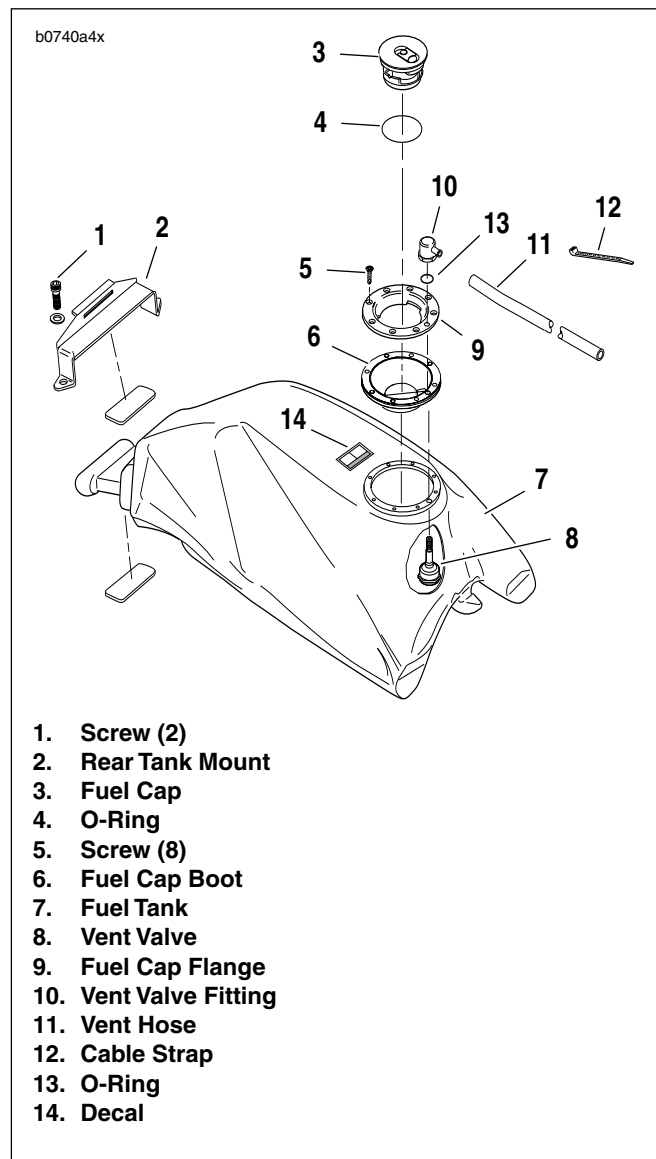
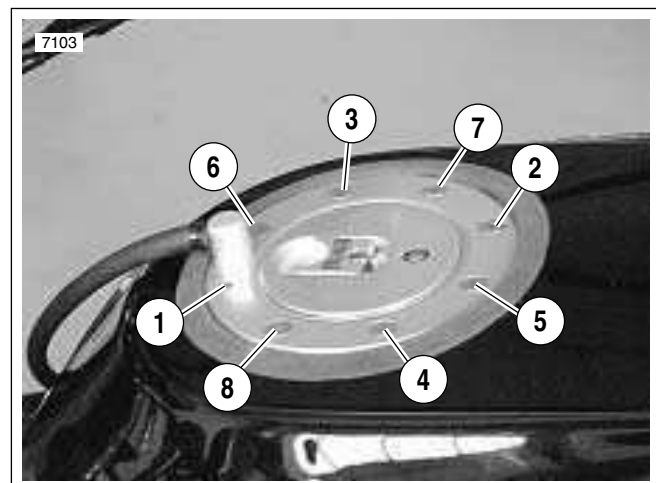

Figure 4-90. Fuel Tank
Figure 4-91. Tightening Sequence (Typical)
2. See Figure 4-90. Remove fuel filler cap (3) with attached O-ring (4).
3. Remove screws (5) from fuel cap flange (9).
4. Remove fuel cap flange and fuel cap boot (6).
5. Detach vent valve fitting (10) and vent valve (8) from fuel cap flange.
- b. See Figure 4-91. Tighten screws to 16-18 in-lbs (1.8-2.0 Nm) in the order shown.
2. See Figure 4-90. Connect vent hose (11) to vent valve fitting (10). Clamp hose to fitting with a **new** cable strap (12).
4. See Figure 4-90. Cut cable tie holding vent hose to fitting and remove vent hose from fuel tank.
4. See Figure 4-90. Install **new** O-ring in groove on bottom of **new** fitting.
8. See Figure 4-90. Attach vent hose to nozzle on fitting with **new** cable tie.